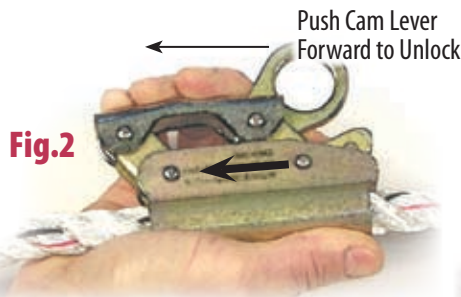

Fig.2
- With the direction arrow pointed toward the anchor attachment, hold the rope grab in the open position shown at **Fig.2** and insert the tail end of the lifeline through rope grab chamber.